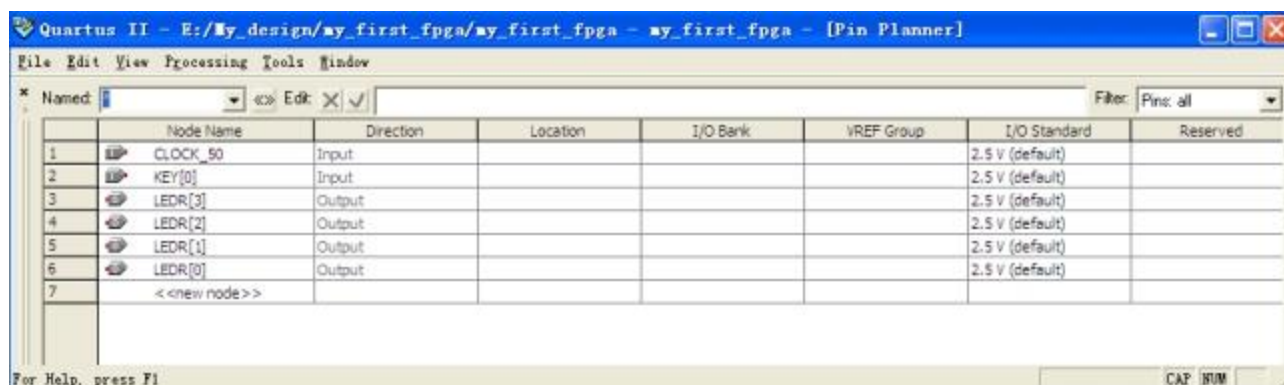

Figure 3-30 Pin Planner Example
1. Choose Assignments > Pins, which opens the Pin Planner, a spreadsheet-like table of specific pin assignments. The Pin Planner shows the design’s six pins. See Figure 3-30